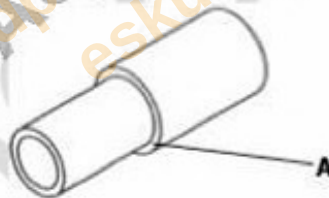

Figure 5
- 17** **Figure 5** below shows two PVC pipes to be joined together at **A**, which of the following glues would be appropriate to use?